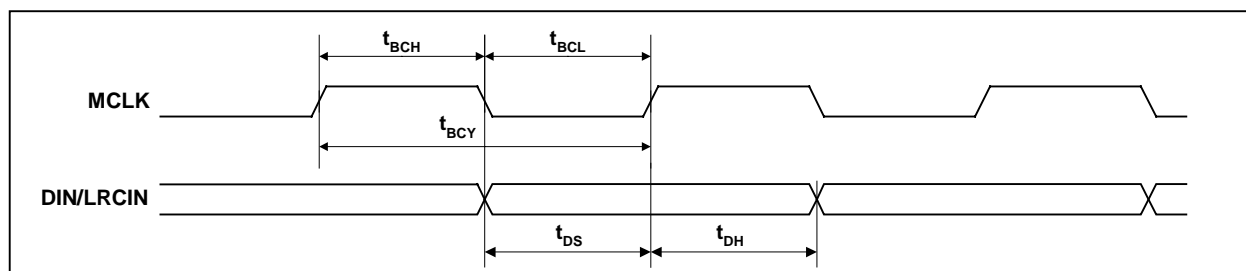

Figure 3 Normal DSD timing requirements
In DSD mode, a separate bitstream data input pin is required for each of the channels, plus a 64fs dataclock MCLK. These signals are applied via pins DIN and LRCIN and the signals routed internally into the DAC circuits, under control of the SCKDSD mode select pin (19) See Figure 3.